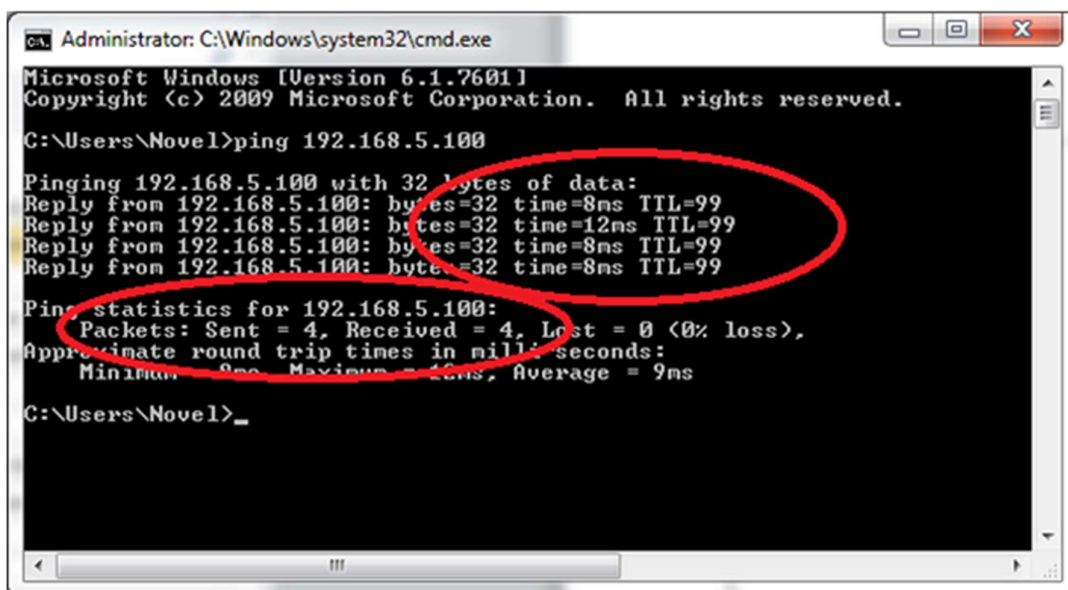

Figure 4 Successful Ping IP connectivity
- If IP connectivity exists, PING utility will report how much time it takes for a message to go to the NTPM device and to return to the PC (Figure 4).